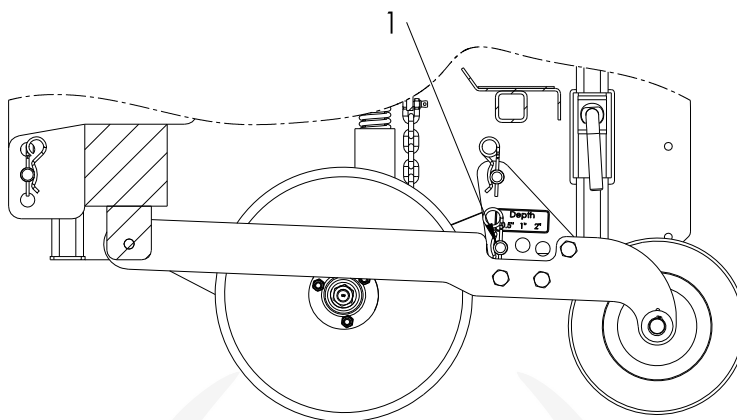

Figure 8
The working depth can be adjusted by adjusting the pin on the rear wheel support. Remove the lower R-clip and pin (1) and place the pin in the hole for the right depth 0,5" - 1" - 2". After that lock the pin with the R-clip. (Figure 8)